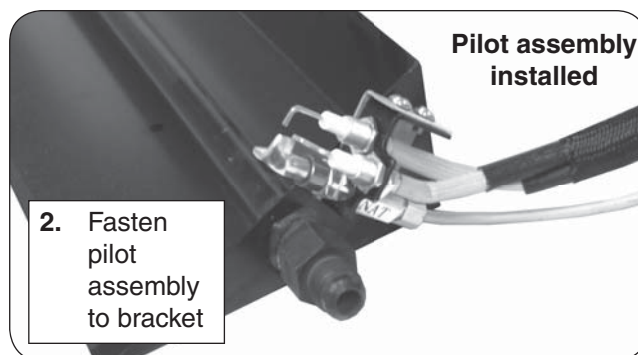

Fig. 5-2
3. Using the two (2) remaining screws, mount the pilot assembly onto the bracket (from below) and tighten until snug (Fig. 5-2). **Check to be certain the pilot hood and probes are situated above the edge of the pan. Adjust if necessary.**